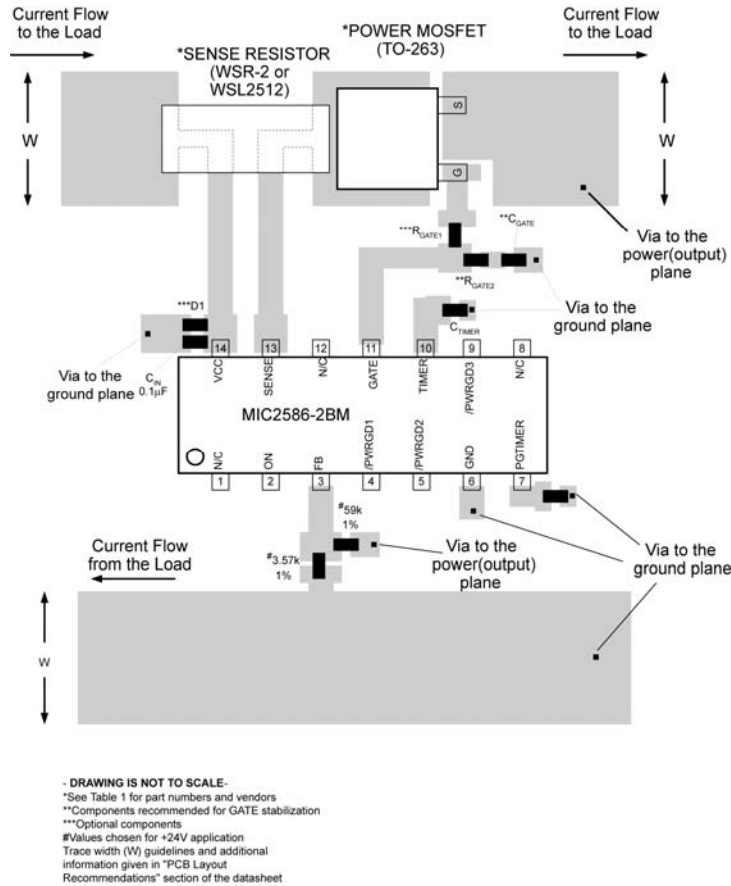

Figure 10. Recommended PCB Layout for Sense Resistor, Power MOSFET, Timer and Feedback Network.
Figure 10 is a recommended PCB layout diagram for the MIC2586-2BM. Many hot swap applications will require load currents of several amperes. Therefore, the power ( $V_{CC}$  and Return) trace widths (W) need to be wide enough to allow the current to flow while the rise in temperature for a given copper plate (e.g., 1oz. or 2oz.) is kept to a maximum of 10°C to 25°C. Also, these traces should be as short as possible in order to minimize the IR drops between the input and the load. The feedback network resistor values in Figure 10 are selected for a +24V application. The resistors for the feedback (FB) and ON pin networks should be placed close to the controller and the associated traces should be as short as possible to improve the circuit's noise immunity. The input "clamping diode" (D1) is referenced in the "Typical Application Circuit" on Page 1. If possible, use high-frequency PCB layout techniques around the GATE circuitry (shown in the "Typical Application Circuit") and use a dummy resistor (e.g.,  $R3 = 0\Omega$ ) during the prototype phase. If R3 is needed to eliminate high-frequency oscillations, common values for R3 range between 4.7 $\Omega$  to 20 $\Omega$  for various power